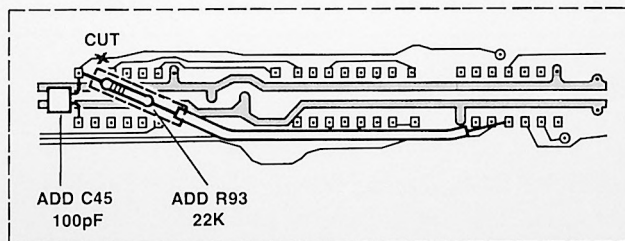

Figure 3
1. Cut the trace to IC15-8 on the solder side of the Audio Logic Board (See Figure 3.)